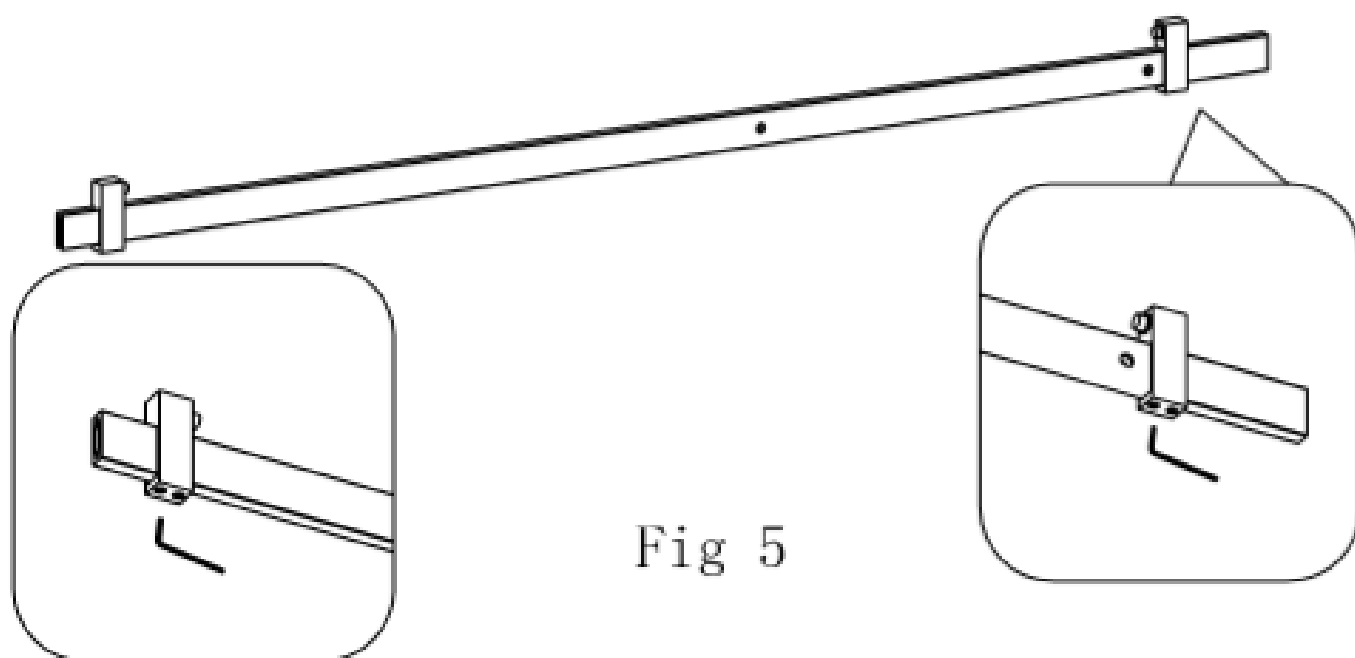

Fig 5
5. Put the **glass stopper (3)** into **support bar (4)**, and screw gently the screws. (Fig 5)